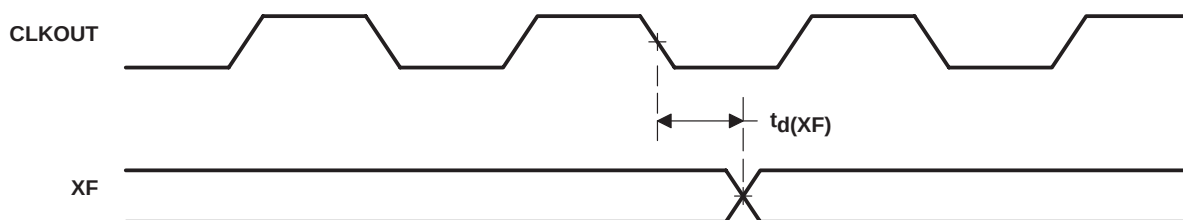
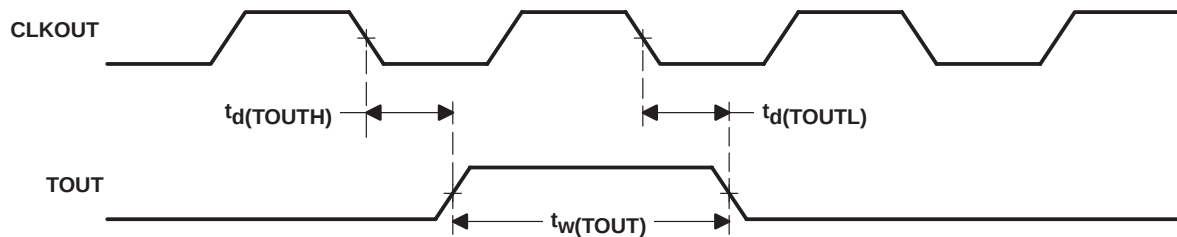

Figure 30. External Flag (XF) Timing
Figure 31. TOUT Timing
switching characteristics over recommended operating conditions for external flag (XF) and TOUT [ $H = 0.5 t_{c(CO)}$ ] (see Figure 30 and Figure 31)